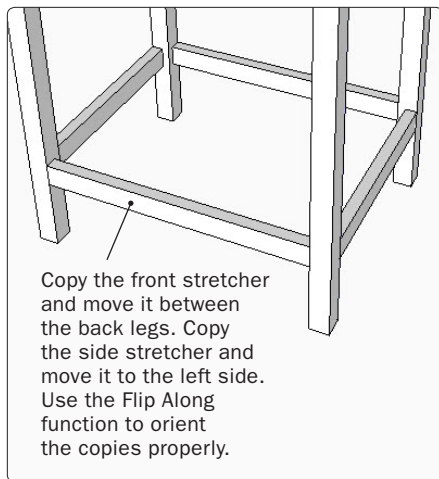

Figure 7. Copy the lower stretchers.
Step 5 Use the Move/Copy Tool to copy the stretchers so that all four legs are connected. After you have moved each stretcher, use the Flip Along function to mirror it. You should have four stretchers in position, as shown in Figure 7.